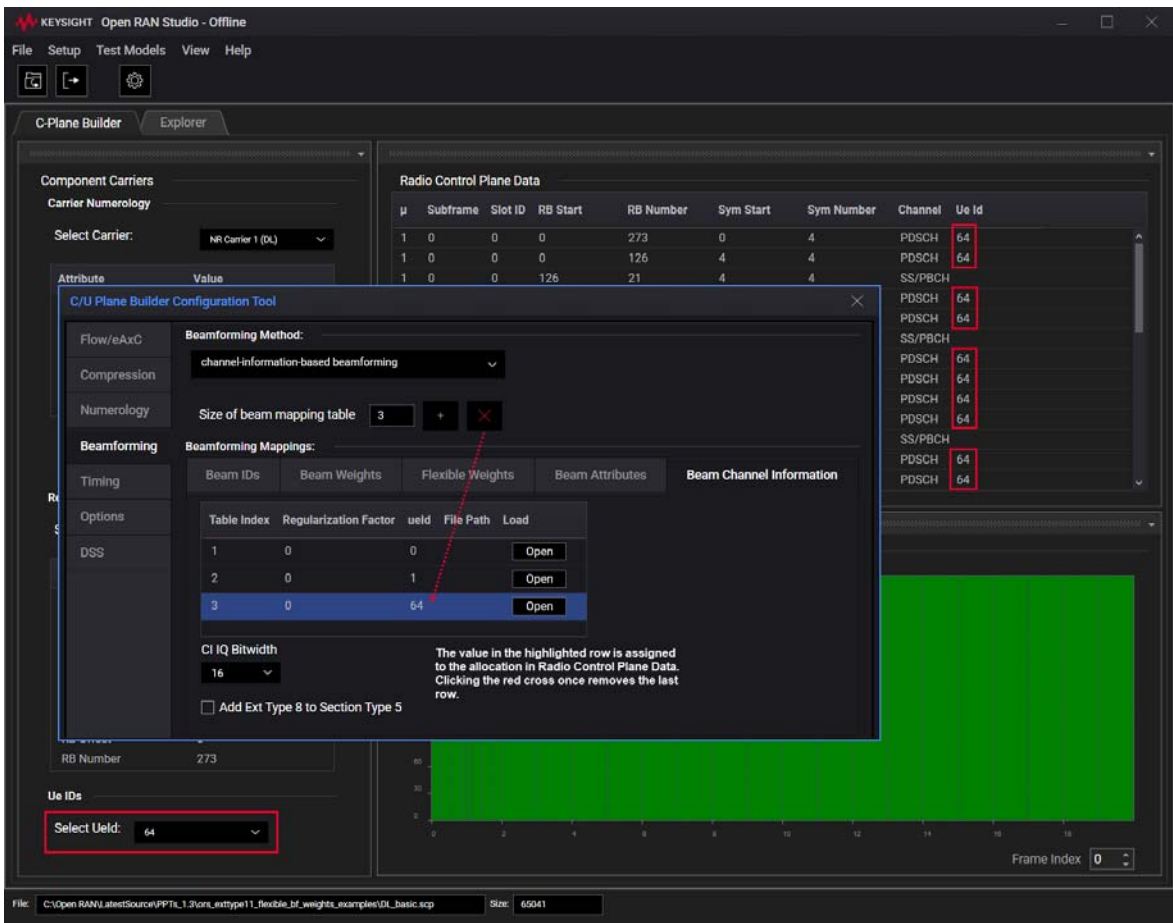
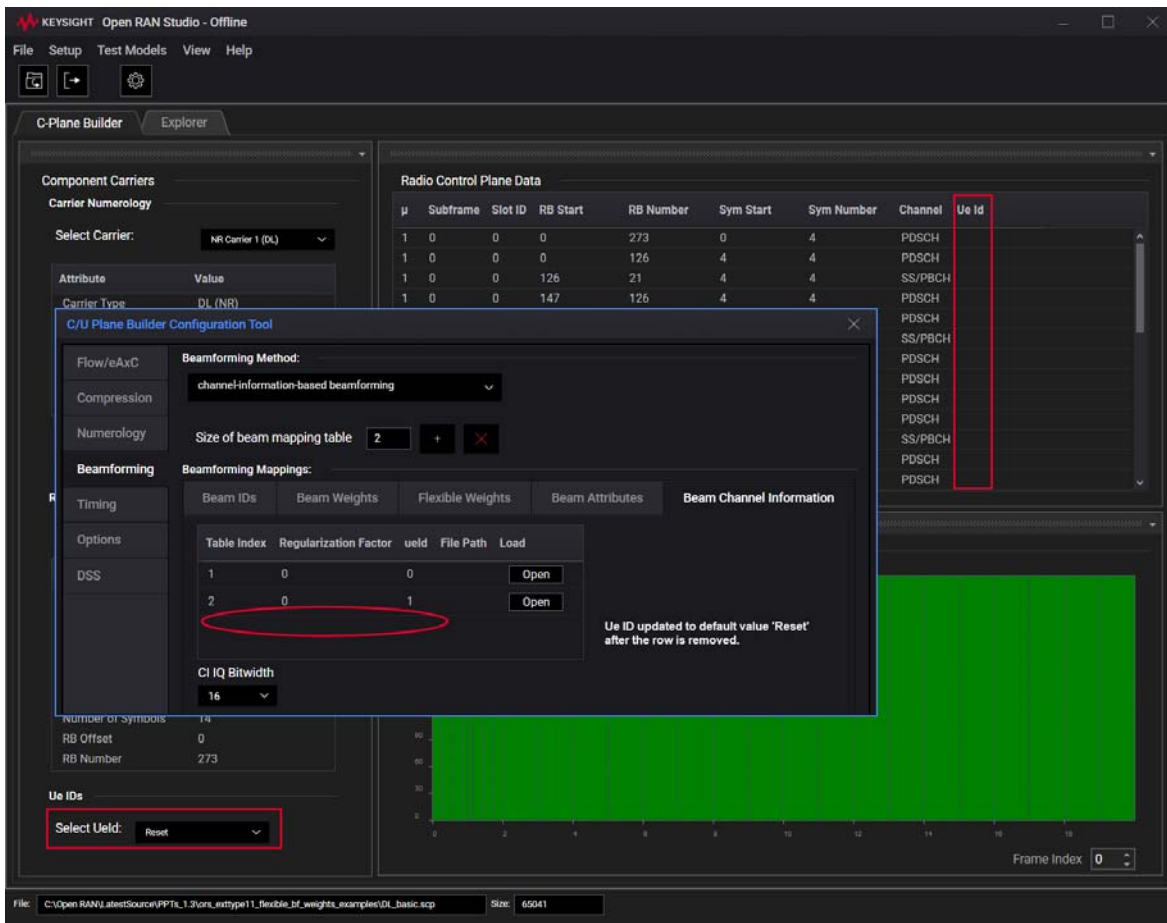

Figure 299 Removing Table Index row having Ue ID value assigned to an allocation
Figure 300 Updated Ue ID values displayed in the Radio Control Plane Data
- g Similar to Beam IDs, removing the Table Index row in the C/U Plane Builder Configuration Tool resets the Ue ID value to 'Reset' (default) in the Select Ueid drop-down field for the corresponding allocations, as shown in Figure 299 and Figure 300.